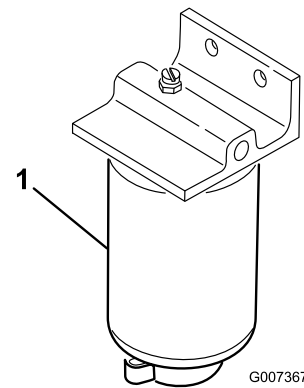

Figure 63
1. Place a clean container under the fuel filter canister (Figure 63).